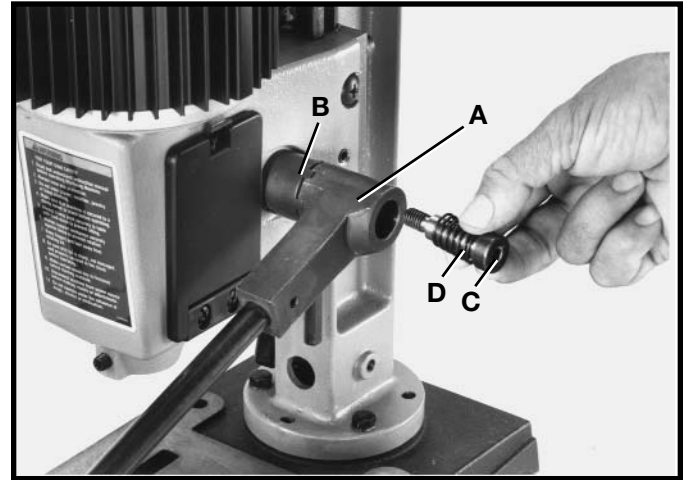

Fig. 3
1. Assemble hub of handle assembly (A) Fig. 3, to end of pinion shaft (B) and fasten handle to pinion shaft using special screw (C) and spring (D).